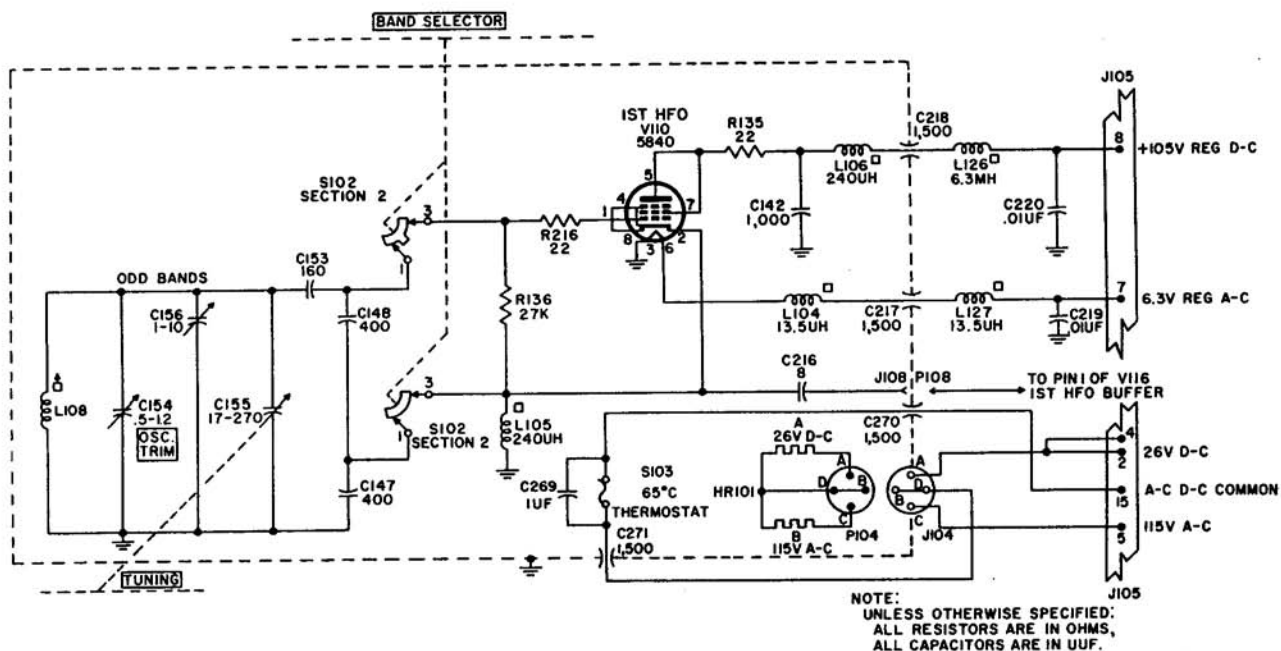

Figure 20. First hf oscillator.
d. *Voltage Supply* (fig. 20). The plate and screen grid B+ is applied through the regulated output of the main unit at pin 8 on J105. The regulated voltage is filtered by the low-pass, two-section, pi-type filter composed of C220, L126, C218, L106, and C142. Resistors R135 and R216 are parasitic suppressors. Filament current for V110 is obtained from a 6.3-volt ac source in the power supply, where it is held constant by ballast tube, RT301. Filament current enters the rf unit through pin 7 on J105 and is filtered by C219, L127, C217, and L104.